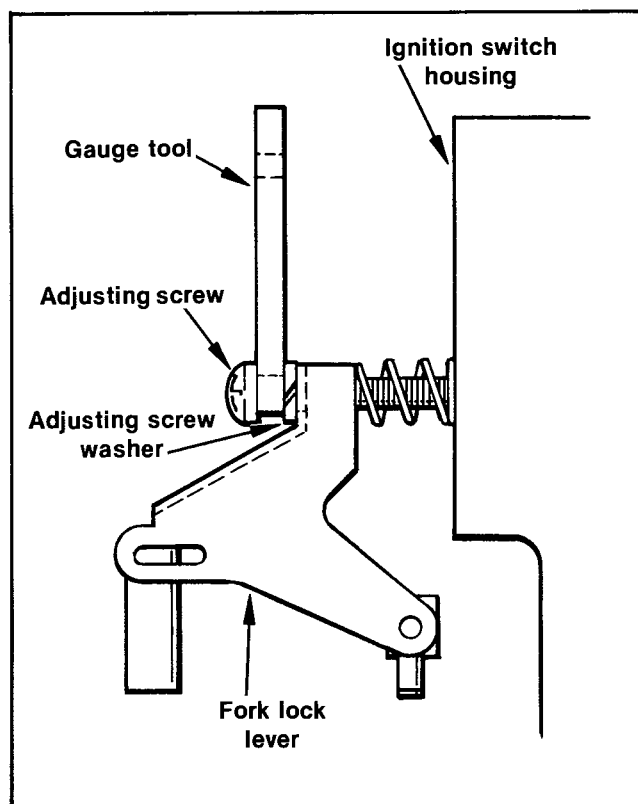

Figure 5. Proper Tool Location
- D. Insert the special gauge tool, from Kit 93330, between the adjusting screw head and washer so slot in gauge rests on the screw shaft. (See Figure 5.)